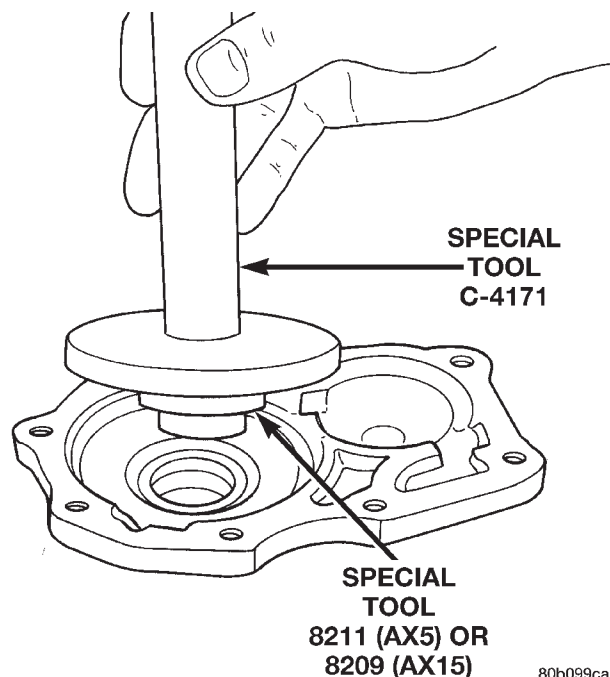

Fig. 11 Install Front Bearing Retainer Seal
(1) Using Tool Handle C-4171 and Seal Installer 8211, install new seal in to the front bearing retainer (Fig. 11).